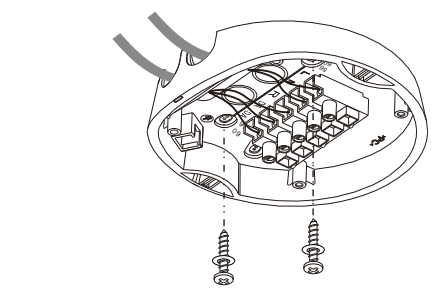

FIG.9
- 3.4.1.5 Choose proper knockouts to fix the bottom base on the surface of ceiling board with 2pcs wood screws (See FIG.9).